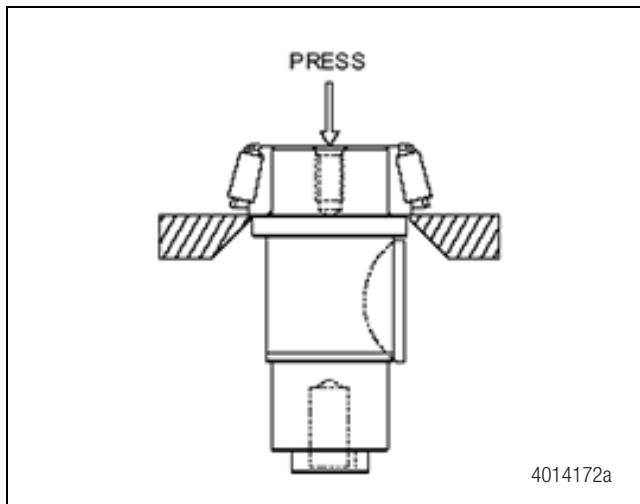

Figure 5.22
1. To remove the bearing cone assembly, support under the cone with a bearing separator and press to shaft through the cone. Figure 5.22.